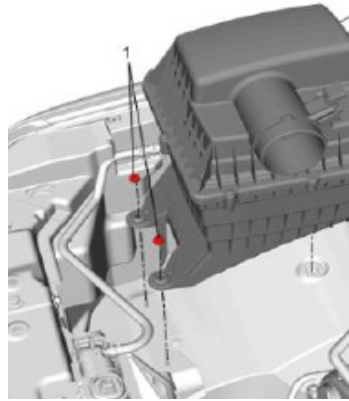

Figure 2
2. Remove two nuts that retain factory airbox housing (1 in Figure 2). Remove housing from vehicle – housing is held in by grommet in the wheelhouse. Pull firmly to remove box and rotate horn out of hole in fender.